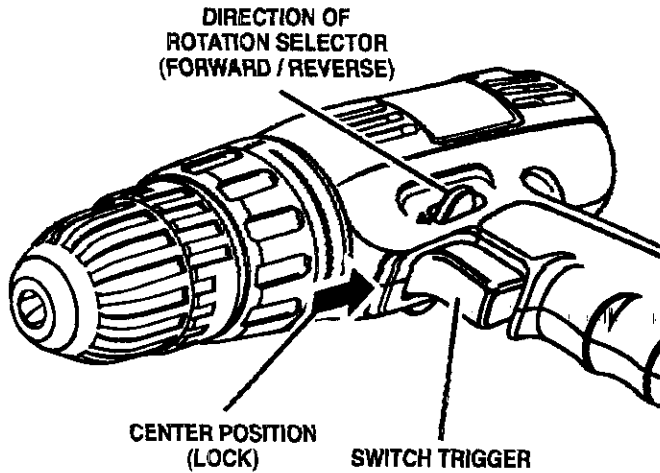

Fig. 3
- Lock switch trigger on your drill by placing the direction of rotation selector in center position. *See Figure 3.*
- Place the direction of rotation selector in center position. See Figure 3. This will turn off the power to your drill.
- Lock the switch trigger by placing the direction of rotation selector in center position. See Figure 3.